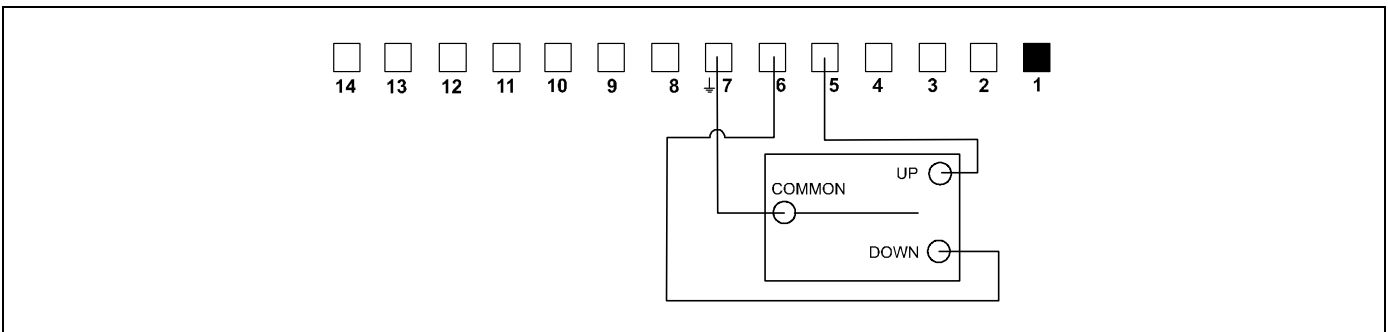

Figure 31
1. Connect the common wire from your switch to terminal 7. (See figure 31)